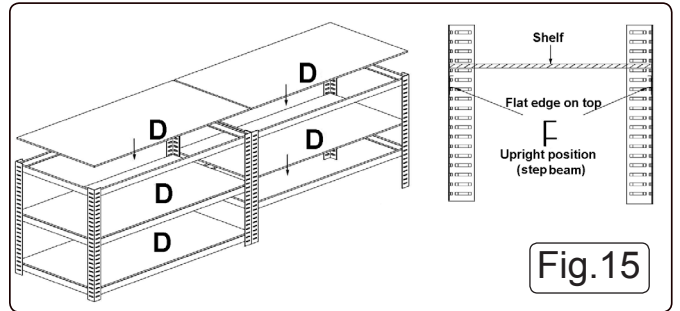

Fig.15
**4.13 See Fig.15.** Lay the shelves into position between the step beams as shown above.